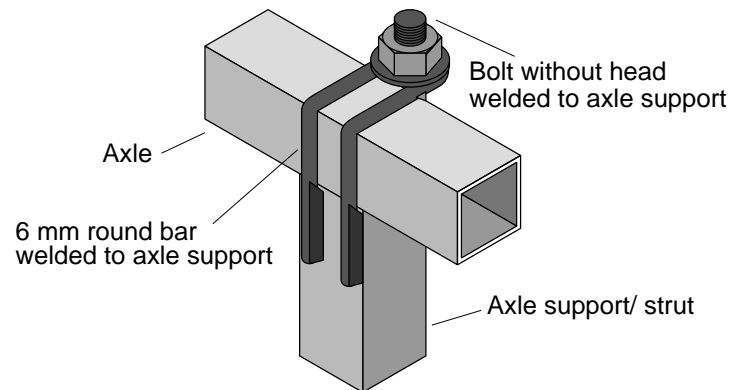

Figure 5: fixing planks to frame with clenched studs.
as shown in Figure 5.
- 5) Next you need to weld on the axle support strut braces to the square tube. Figure 5 shows the frame nearly ready.